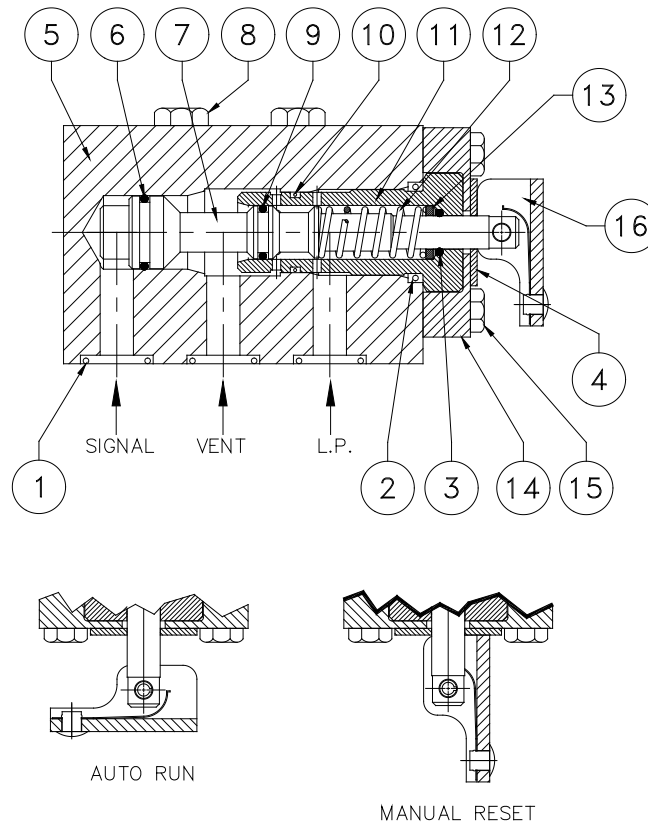

Figure 3: Reset Valve
1. Lift the toggle on the manual pilot valve and latch in the "Up" position. See Figure 3 for "Manual Reset" position.
4. Lower the toggle on the manual pilot valve. See Figure 3 for "Auto/Run" position. The toggle should automatically go to "Run".